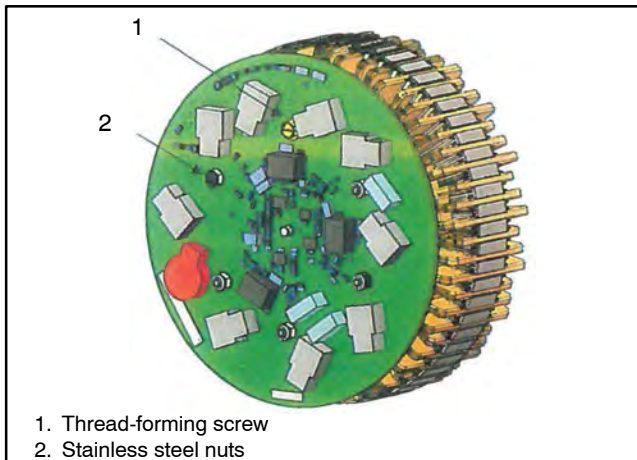

Figure 16-12 Activator Board
11. Secure the activator board to the studs on the spacer by using 5 stainless steel elastic stop hex nuts and a thread-forming screw. Torque to 1.3 Nm (12 in. lbs.). See Figure 16-12 and Figure 16-13.